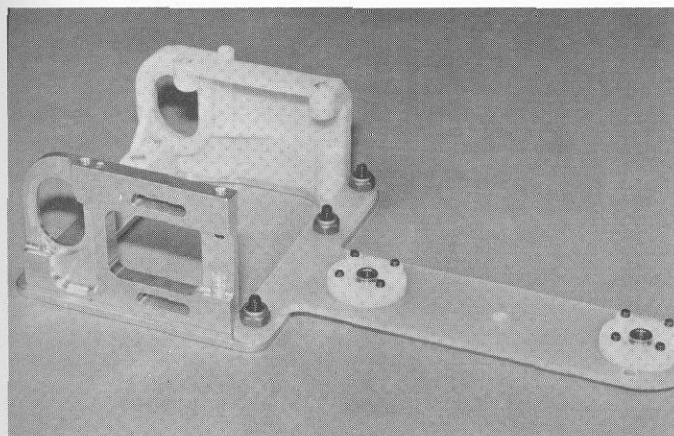

Fig. 28
□ **Fig. 28** Your rear end and T-bar assembly will look like this now.